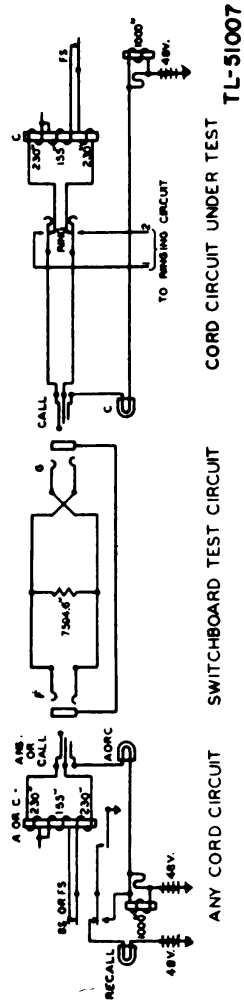

Figure 54. Ringing key test, Switchboard BD-110-(), functional diagram.
(9) TALK-RINGING KEY TEST (fig. 54). Insert the plug of a spare cord in the F jack, and insert the plug of the cord under test into